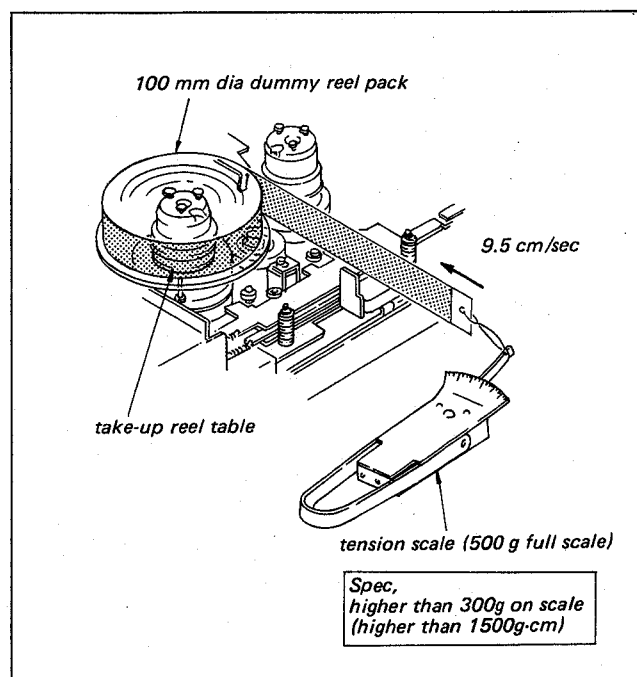

Fig. 5-9. Fast forward torque check (Fast-forward mode)
4. Hook a tension scale (500 g full scale) (Jig Ref. No. J-18) on an end of tape. Let the tape be pulled at the constant speed of approx. 9.5 cm/sec. See Fig. 5-9.